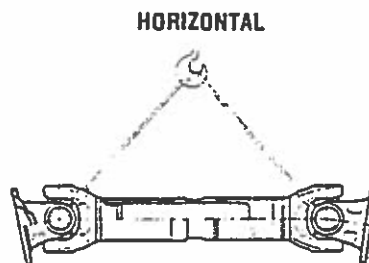

Fig. 3
- Generally, drive shafts should be transported in a HORIZONTAL position. Fig. 3